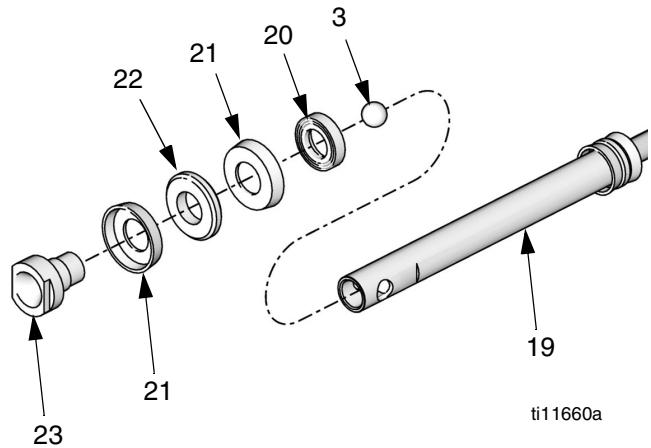

FIG. 17
3. Lubricate the piston seals (21) and bearing (22) with no. 2 lithium-based grease. Install one piston seal (21) with the lips facing down, bearing (22), and second piston seal (21) with lips facing up on the piston (23). Install the backup washer (20) with the grooves facing down. See FIG. 17 on page 18.
4. Place the ball (3) on top of the piston body (23) and screw the piston body and the fluid piston rod (19) together. Torque to 30-35 ft-lb (41-48 N•m). Screw the piston valve housing (29) onto the lower connecting rod (19). See FIG. 17 on page 18.
5. Install the seal (51), with the lips facing down, in the displacement pump frame (36), then install bearing (31).